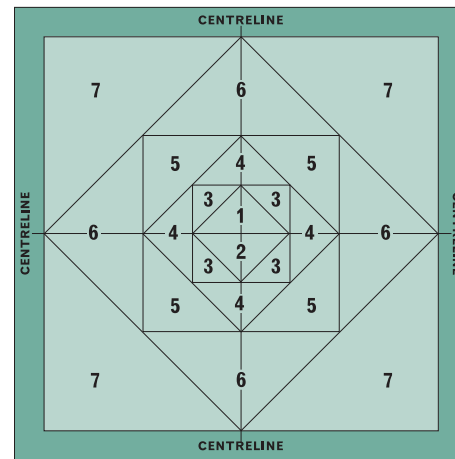

Figure 14 Floor layout
C. Repeat this sequence on the opposite side of the centreline shown as area 2 in Figure 14.
Continue working in larger and larger pyramids, as shown in Figure 14, until only the perimeter tiles require fitting.